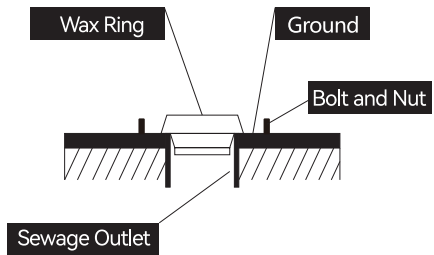

Figure 2
2. Put a flange to the floor with bolts, then fix the wax ring to the sewage outlet, and do the sealing well. As shown in Figure 2.